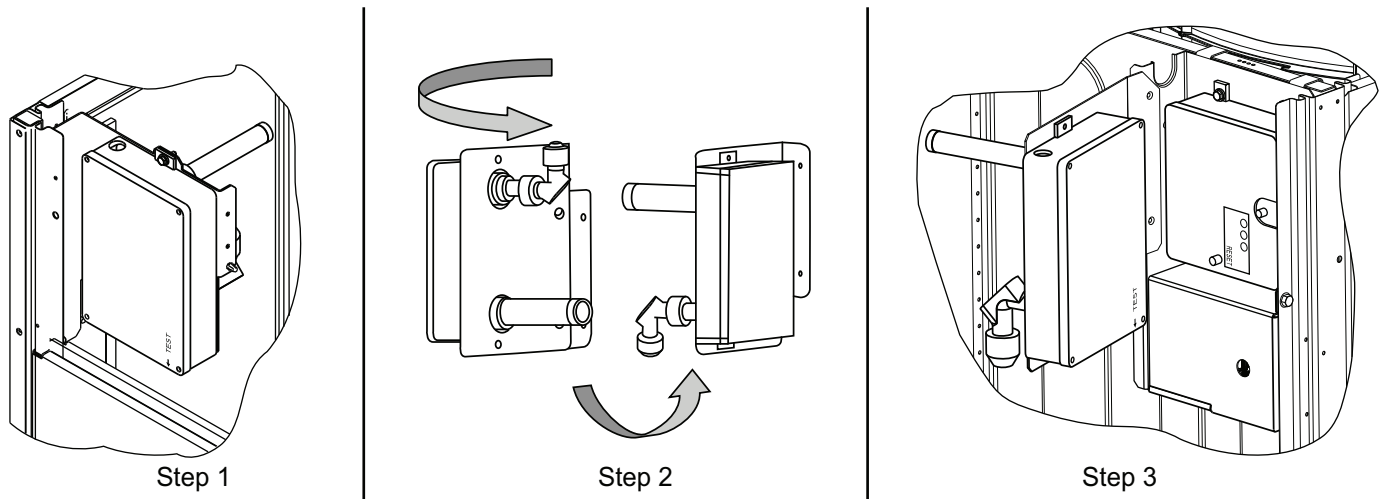

Fig. 79 — Completing Installation of Return Air Smoke Sensor
1. Unscrew the 2 screws holding the return air smoke detector assembly. See Fig. 79, Step 1. Save the screws.
2. Turn the assembly 90 degrees and then rotate end to end. Make sure that the elbow fitting is pointing down. See Fig. 79, Step 2.
3. Screw the sensor and detector plate into its operating position using screws from Step 1. See Fig. 79, Step 3.